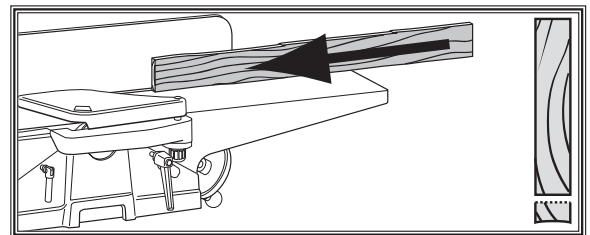

Figure 34. Edge joint on the jointer.
3. **Edge Joint on the Jointer:** The concave edge of the workpiece is jointed flat with the jointer (**Figure 34**).